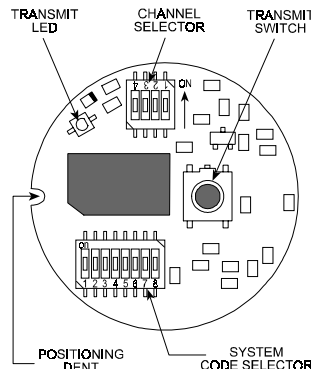

Figure 3. Transmitter Module - Top Side
Upon removal of the cover, the top side of the transmitter module can be viewed (Fig. 3).
- B. Align the cover with the base: make sure that the transparent lens is over the transmit LED and the transmit pushbutton is over the transmit switch (Fig. 3). Then press the cover and the base together between your fingers.
- E. Turn the transmitter module over and briefly press the transmit switch (Fig. 3). The on-board LED should light brightly while the switch is pressed.
F. Align the positioning dent (Fig. 3) with the guide pin in the base and place the module within the base. Then close the case as instructed in Para. 3.4 above).